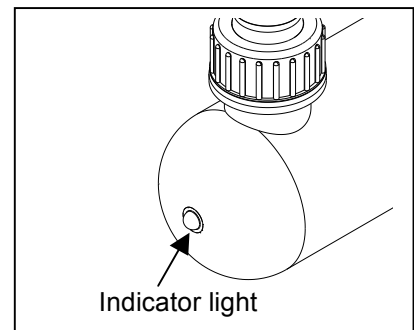

Fig. 11
11. Wait several seconds for the light to turn on then check the indicator light to verify if the light is functioning correctly. Fig. 11